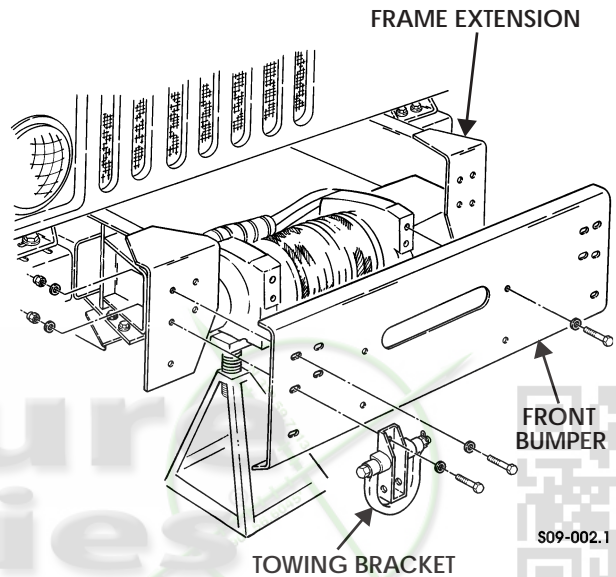

Figure 9-14: Front Bumper and Towing Brackets for Vehicles With Winch
1. Remove four capscrews and washers securing winch to front bumper (Figure 9-14).
1. Install front bumper on frame extensions with six washers, capscrews, five washers, and locknuts. Tighten capscrews to 90 lb-ft (122 N•m) (Figure 9-14).